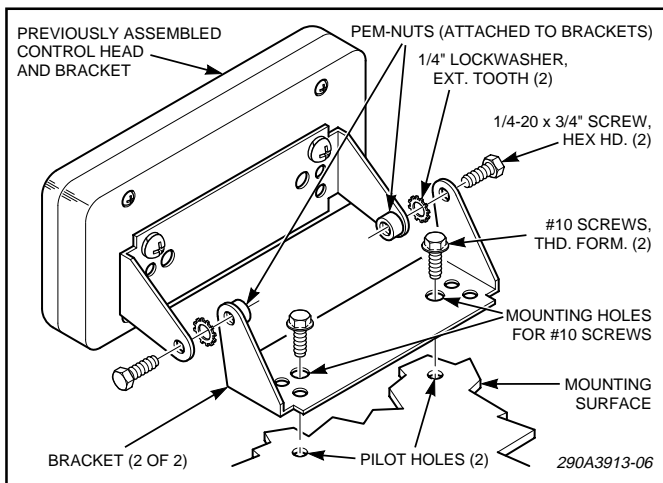

Figure 3-4. Control Head and Bracket Installation.
A. Assemble a bracket to the control head using the 6-32 x 1/4 screws and #6 lockwashers. Assemble the other bracket to the control head/bracket assembly using the 1/4-20 x 3/4 hex head screws and 1/4" lockwashers as shown in figure 3-4.
- D. Secure the mounting bracket to the mounting surface with the #10 thread-forming screws as shown in figure 3-4.